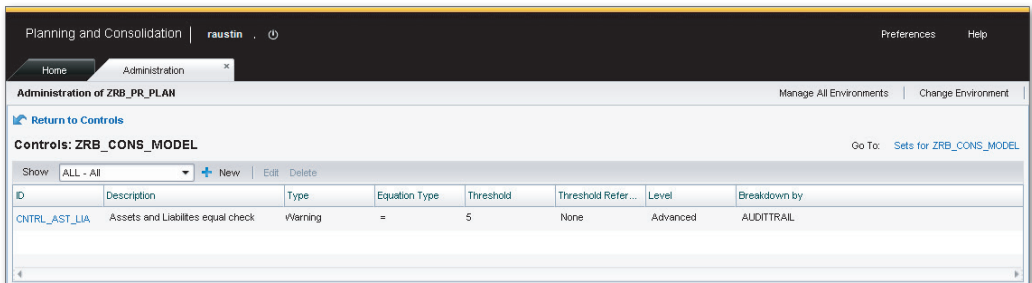

Figure 9.27 Configuring and Running Controls—Part F
7. Next, we'll create a control set and assign to it the control that we created. Remember that the control set allows a group of controls to be executed together in a single step. Select the control you created in the earlier steps, and click on the link **Go To: SETS FOR ZRB_CONS_MODEL** (Figure 9.27). In the interface for maintaining control sets, click the menu option **NEW** to create a new control set.